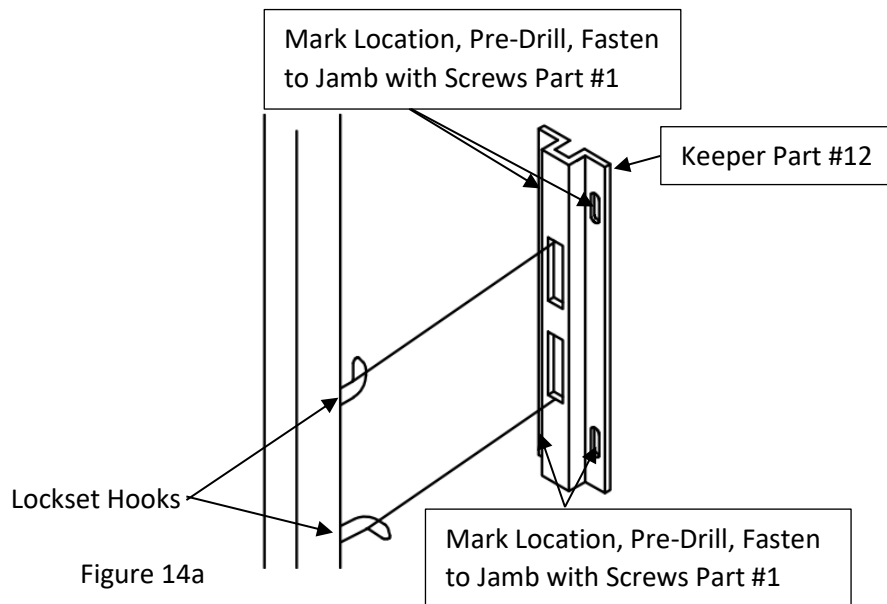

Figure 14a
19. After the final roller adjustments, install the keeper (Part #12) into the lock side jamb (Part #7) by aligning with the lockset hooks on the panel and marking the location of the keeper's four screw holes onto the jamb. Next, pre-drill holes in the jamb at the marked locations using a 1/8" - 3/16" drill bit. Lastly, fasten the keeper to the jamb with screws (Part #1) as shown in figure 14a (use sealant to lubricate screws). After the keeper has been installed, adjust the throw on the hooks of the lockset to ensure a tight fit when the door is closed and locked by turning the adjustment screw located between the hooks shown in figure 14b.